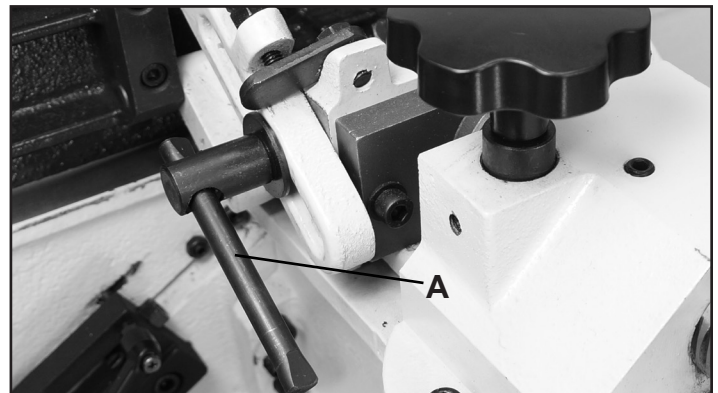

FIG. 24
2. To tilt the fence, loosen the lock lever (A), and tilt the fence to the desired angle. Then retighten the lock lever. FIG. 24.